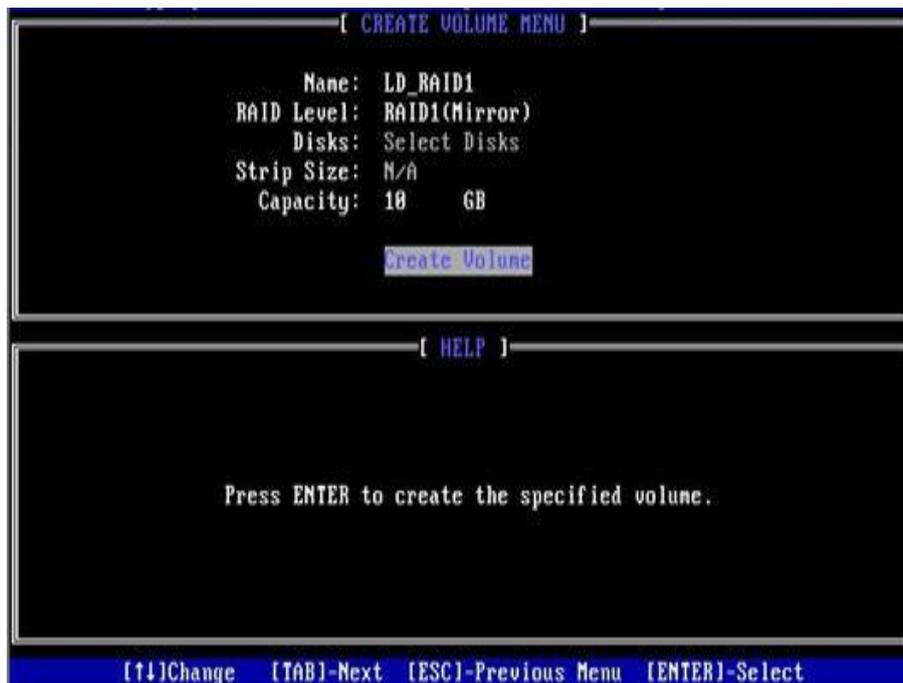

Fig.6.18
- c) Enter Fig. 6.18, configure in Name, RAID Level, Disks, Strip Size and Capacity column (parameters description seen table6.3), then select Create Volume, press Enter.
- ❖ Fig. 6.18 Create RAID Volume interface